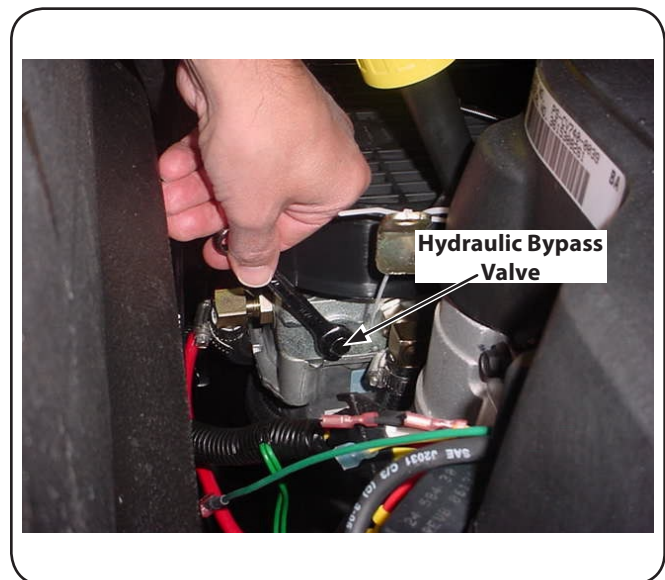

Figure 6-5
1. From just in front of the engine and just behind the seat, locate the transmission bypass valves. Refer to Fig. 6-5.